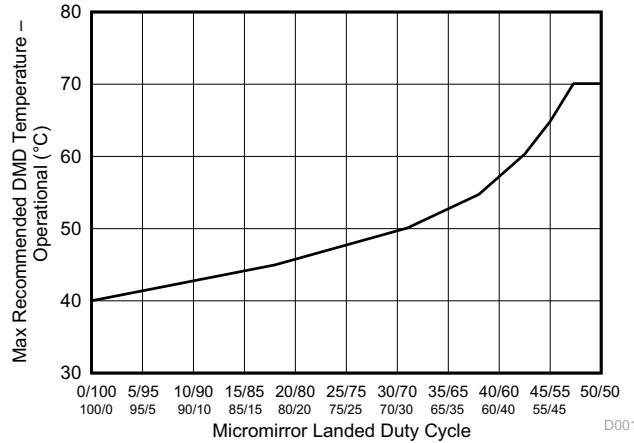

Figure 7-1. Maximum Recommended DMD Temperature – Derating Curve
- (6) Per Figure 7-1, the maximum operational case temperature at test points TP1 and TP2 as shown in Figure 8-3 or Figure 8-4 should be derated based on the micromirror landed duty cycle that the DMD experiences in the end application. Refer to Micromirror Landed-on/Landed-Off Duty Cycle for a definition of landed duty cycle.
- (7) Long-term is defined as the average over the usable life.